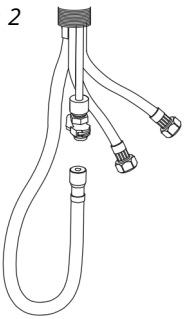

Figure 3
3. Once the pullout hose is attached to the connector, let the hose hang naturally. Install the pull-out weight 10 cm (4") away from the lowest point of the loop, in the opposite direction of the connector. (See Figure 3)